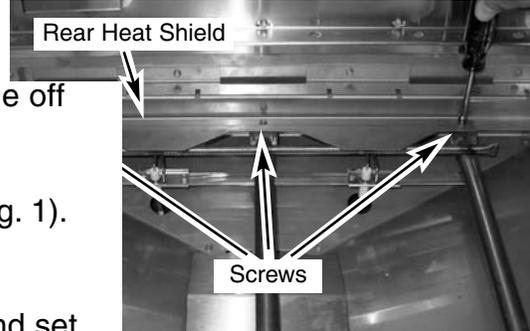

Fig 2
2. Remove the screws holding the rear heat shield in place. Lift out rear heat shield and set aside (Fig. 2).
22. Reattach the electrode and their heat shields to the burners (Fig. 2, 3, and 4).